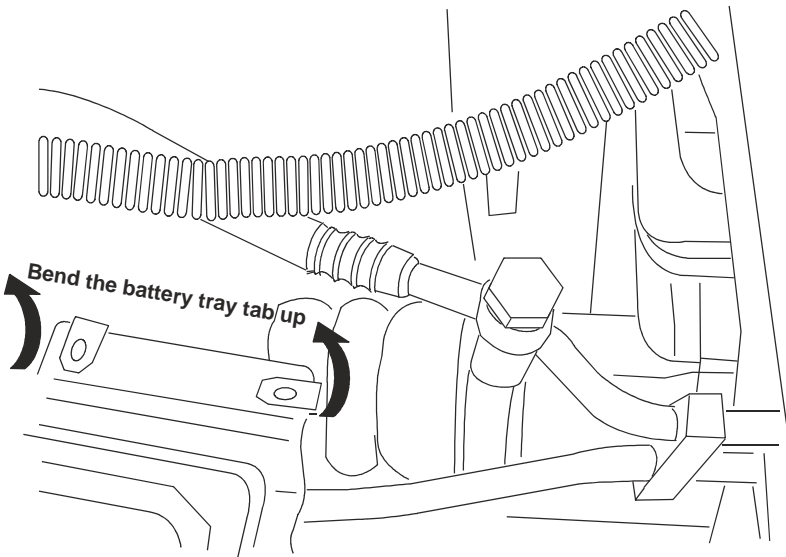

Figure 1.2
- ☐ On trucks built before 2005, remove the passenger side battery and bend the horizontal tab on the passenger side battery tray upward to the vertical position (Figure 1.2). Install the battery.